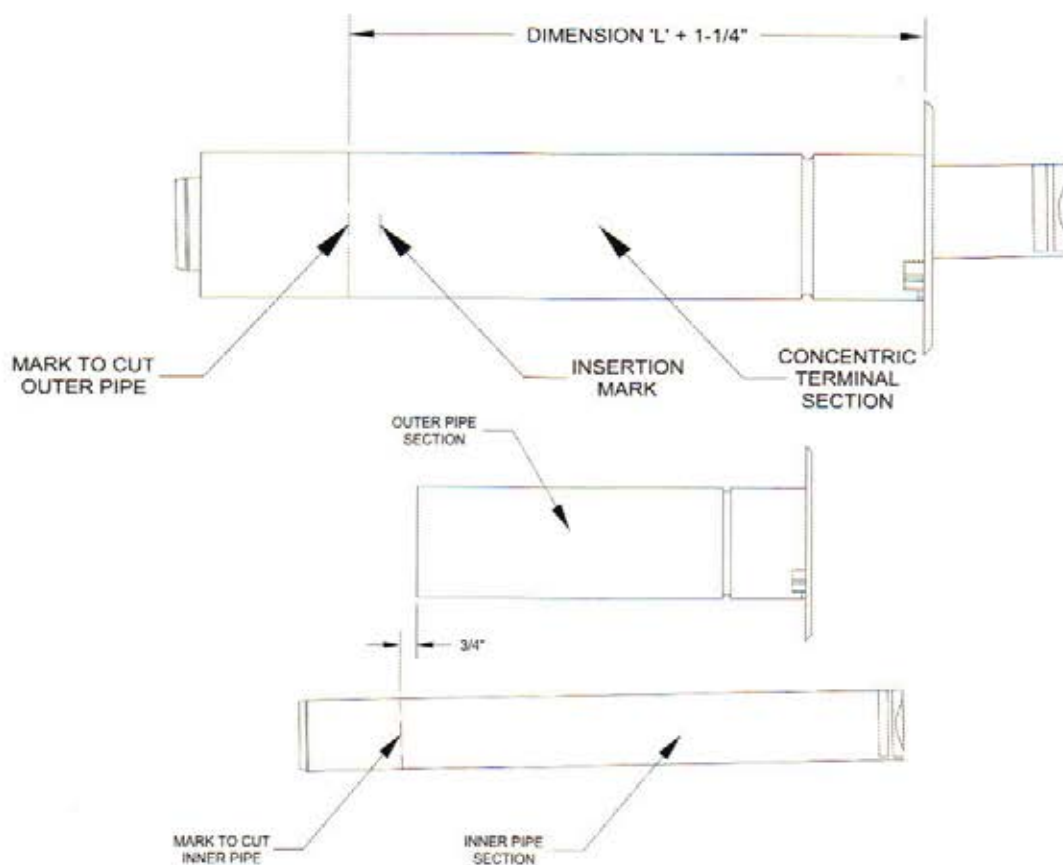

Figure 25: Cutting Vent Terminal Pipe
- When factory Horizontal (Wall) Terminal needs to be shortened, measure dimension "L" plus 1 1/4" from inside of the attached Outside Wall Plate and mark the Horizontal (Wall) Terminal outer pipe. To achieve a square cut of the outer pipe, place several marks around the outer pipe to establish a cut line. See Figure 25 "Cutting Vent Terminal Pipe".
- Cut off the marked end of inner polypropylene vent pipe with a fine tooth blade hacksaw etc. and de-burr. See Figure 25 "Cutting Vent Terminal Pipe". This pipe can be removed from the terminal to ease cutting, if desired.